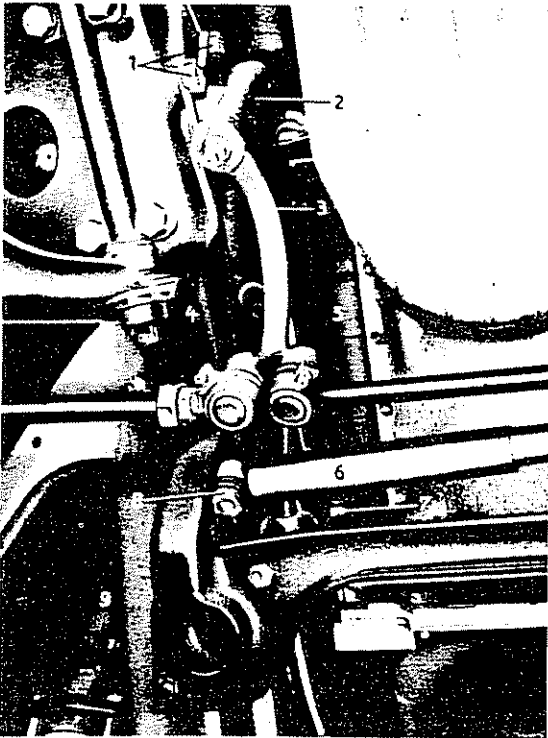

Fig. 15-1/1
pivot bearing (2) with the tie-rod downward (Fig. 15-1/1).
3. Turn the two hexagon screws and the cable support (3) sideways on the right rear engine mounting (Fig. 15-1/2).